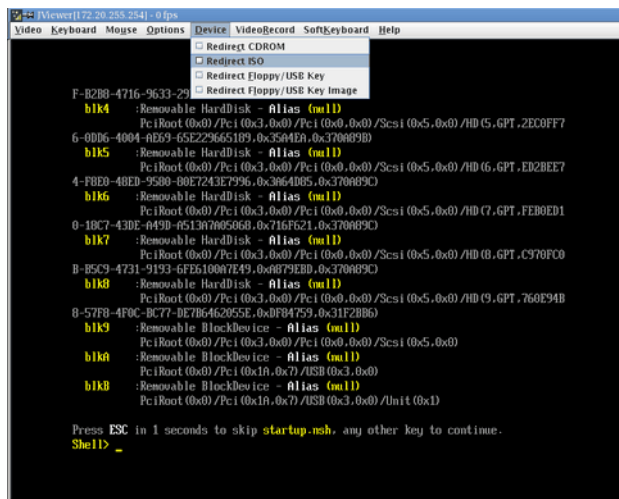
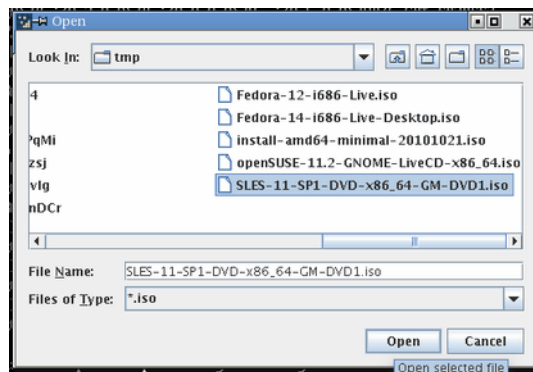
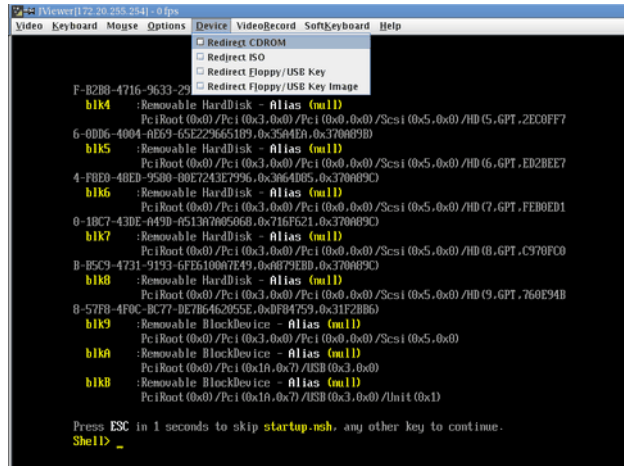

Figure 3-14 Redirect ISO Pull Down Menu
Figure 3-15 ISO Image File Name Screen
Figure 3-16 Redirect CRROM Pull Down Menu
- To specify an ISO image file to redirect to the Altix UV operating system ISO image, select **Device-> Redirect ISO** on the JViewer client, as shown in Figure 3-14 on page 51. Then select the ISO image file to use, as shown in Figure 3-15 on page 51. If you are using physical media, to redirect a CD-ROM or DVD, place the CD in the drive of the machine where JViewer is running, then select **Device-> Redirect CDROM** on the JViewer client, as shown in Figure 3-16 on page 52.